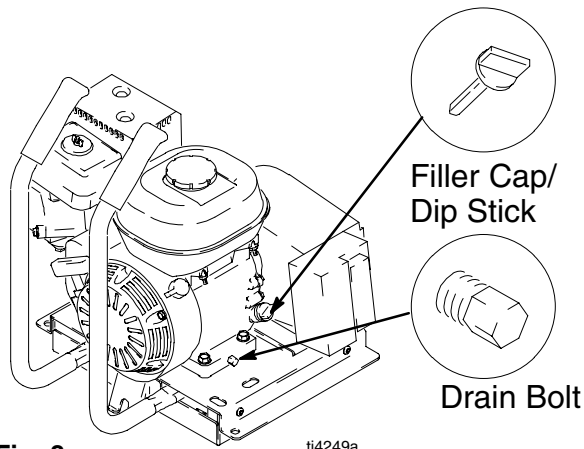

Fig. 8
4. Remove drain bolt and filler cap/dip stick. Fig. 8.
6. Reinstall drain bolt. Tighten securely. Fig. 8.